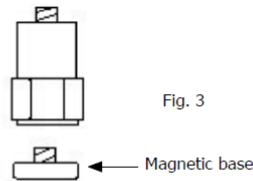
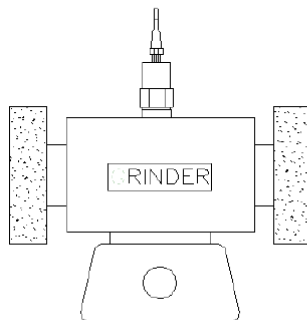

Fig. 3
Fig. 4
5. If the surface material of measuring article is the ferrous material, connect " Vibration sensor " (3-13, Fig. 1) with the " Magnetic base " (3-14), refer Fig. 3. Put the whole unit (Vibration sensor & Magnetic base) to the surface of measuring article, refer Fig. 4.